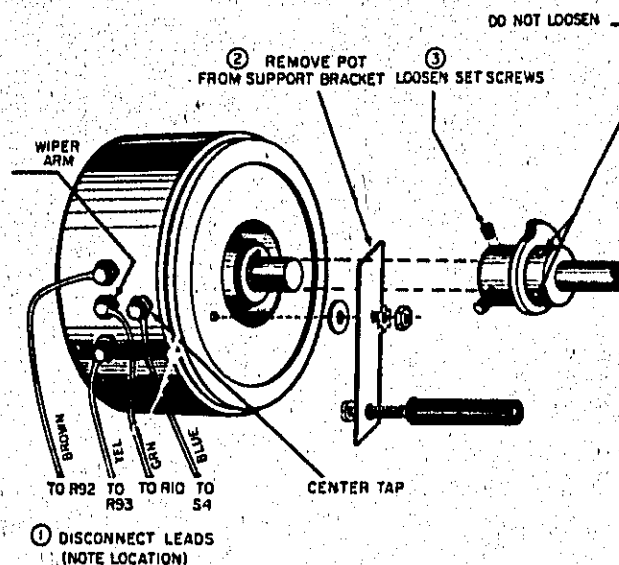

Figure 5-6. Detail Showing Reflector Potentiometer Removal
5-37. To replace reflector potentiometer, R96, refer to Figure 5-6 and proceed as follows:
- Loosen setscrews on mode-switch cam located between cam and potentiometer. DO NOT LOOSEN setscrews between mode-switch cam and frequency drive casting (see Figure 5-6).